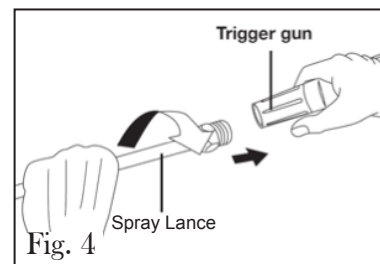

Fig. 4
4. Fit the spray lance into the trigger gun and rotate it until the two parts are securely connected (Fig. 4).